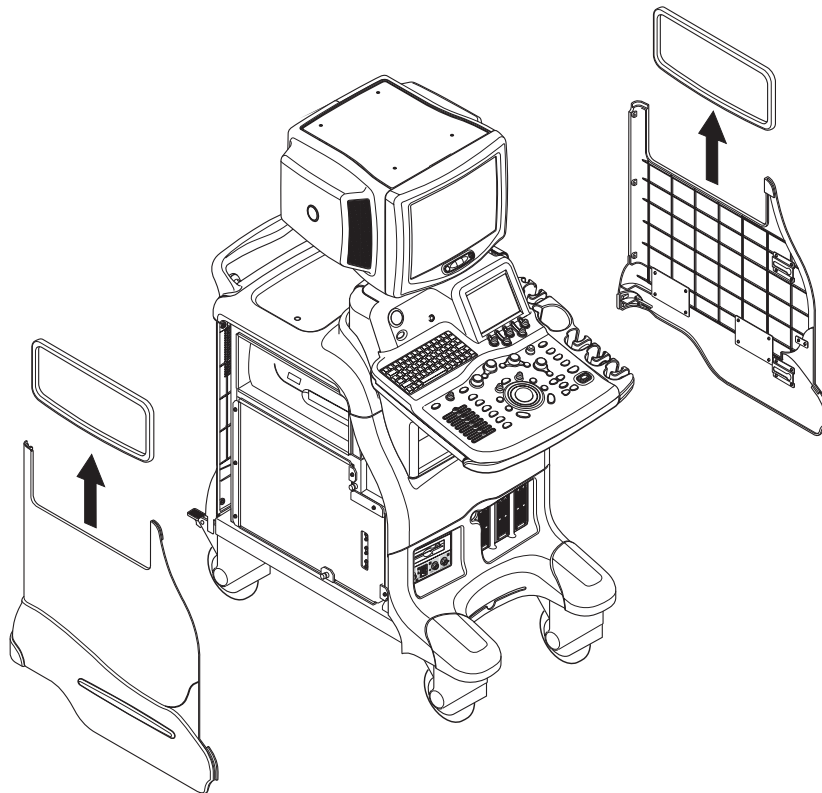

Figure 8-97 Removing the Side Caps
- 4.) Pull the Side Fringe upward from the Right Cover. Refer to Figure 8-97 on page 8-51 .